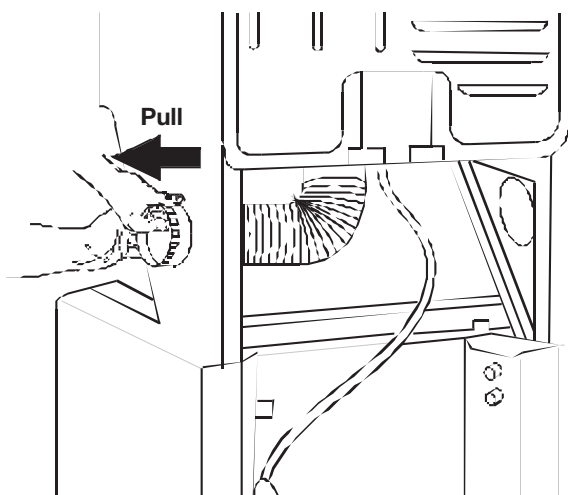

Figure 5
6. Pull exhaust pipe through opening until clip “snaps” into place. See Figure 5.